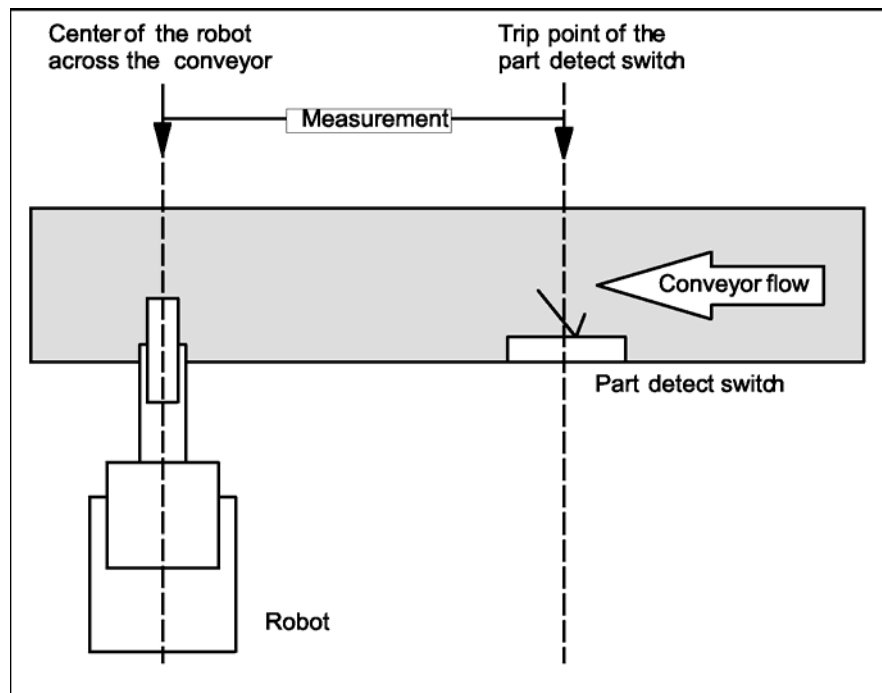

Fig. 3.3(a) Part detect switch (line and rail tracking)
This parameter relies on a correct value for the Encoder Scale Factor Step 17. Refer to Fig. 3.3(a).
22. Select Selected Boundary Set. Enter a number to specify which of the boundary window sets (pairs of \$LNSCH.\$BOUND1[n] and \$LNSCH.\$BOUND2[n]) are used for all position boundary checking, within programs using the current Tracking Schedule Number. Refer to Fig. 3.3(b).